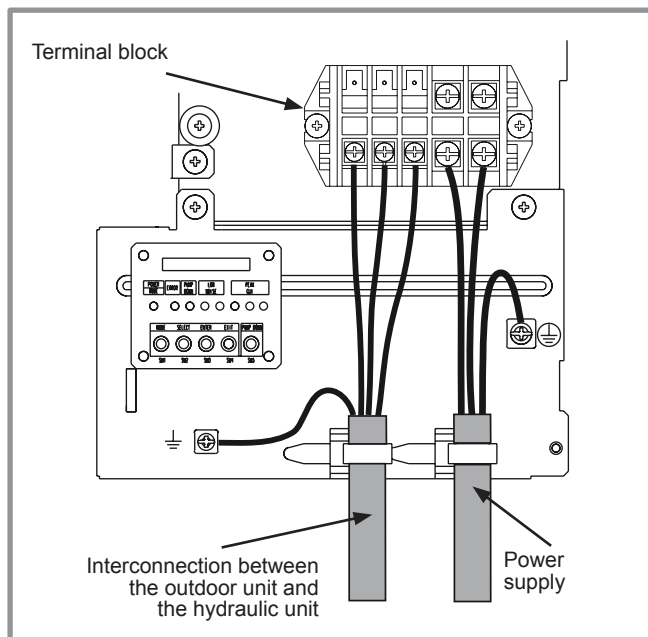
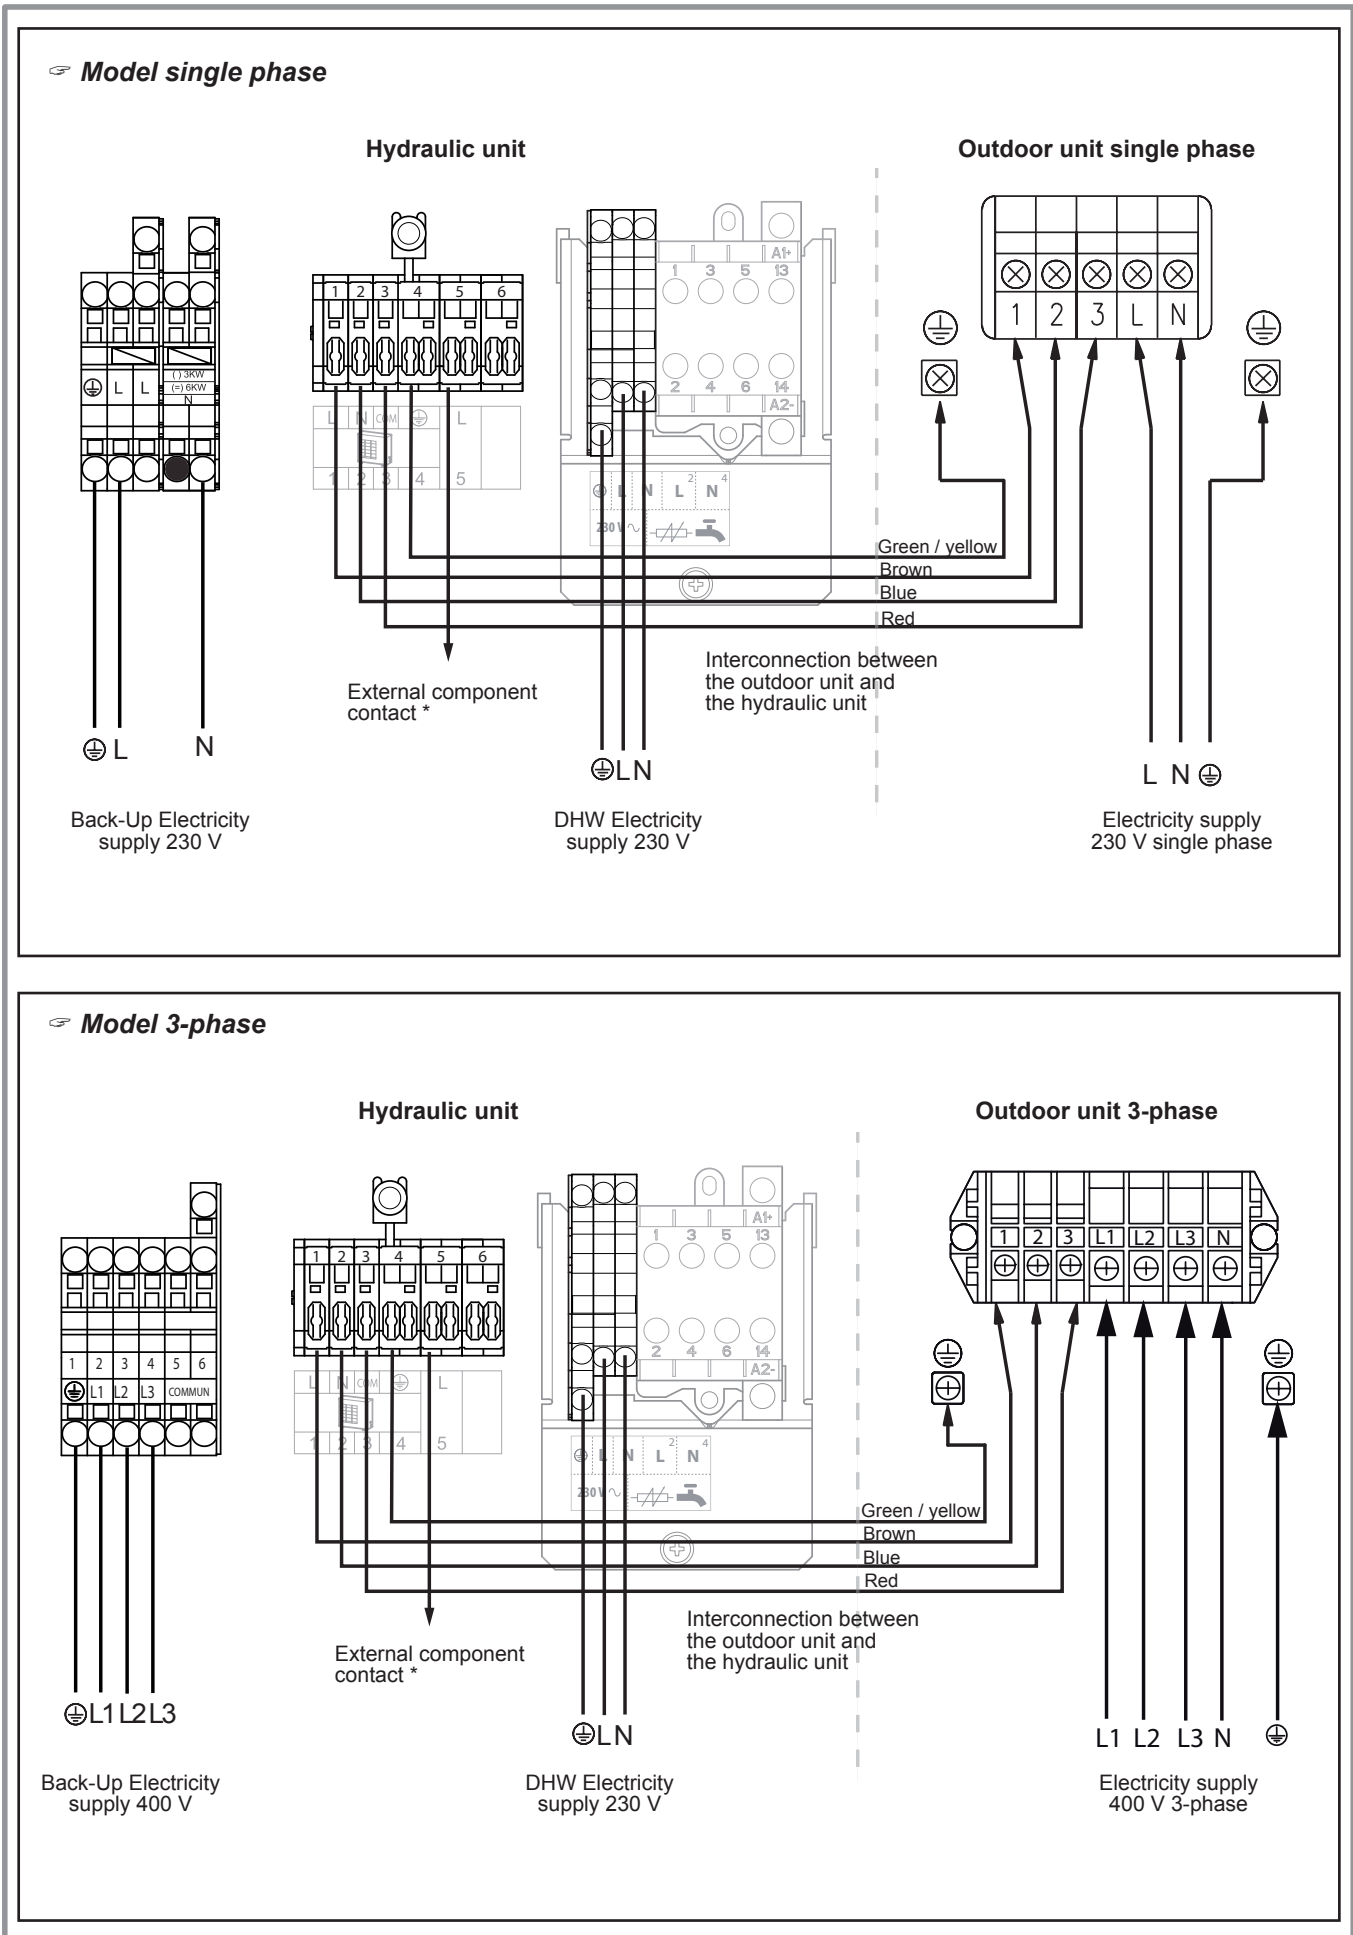

figure 35 - Connections to single phase outdoor unit's terminal block
figure 44 - Connection to terminal block and power relays
- Make the connections in accordance with the diagram figure 35 et figure 44, page 39.
- Make the connections in accordance with the diagram figure 44.